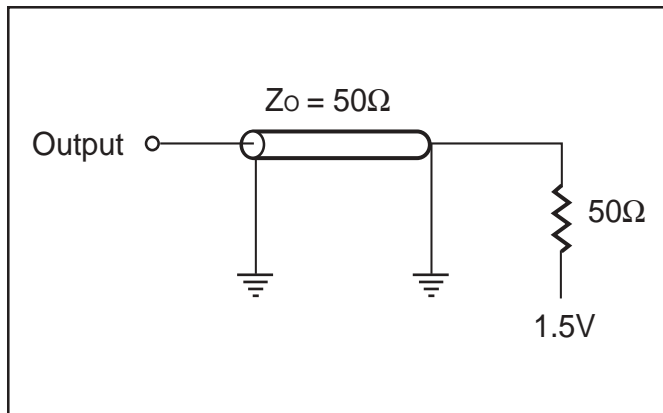

Figure 1
| Output Load                                 | See Figures 1 and 2 |
3. Tested with load in Figure 1.
1. Tested with load in Figure 1.